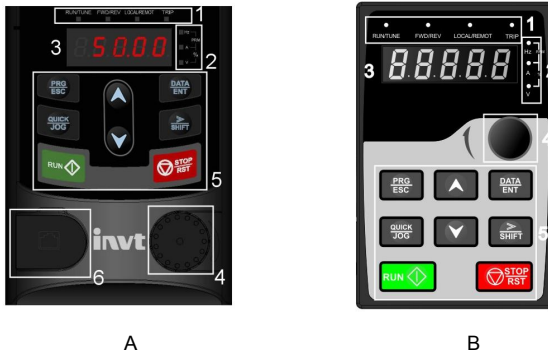

Fig 5-1 Keypad
**Note:** The keypad of 0.75~15kW as show in Fig 5-1 A, and 18.5~500kW as show in Fig 5-1 B; The inverters of 0.75~30kW can choose optional LED keypad and 0.75~500kW can choose optional LCD keypad . The LCD keypad supports several languages, parameters copy, high-definition display and its installation dimension is compatible with the LED.